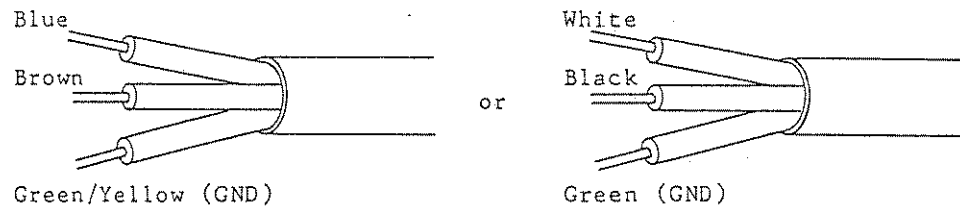

Fig. 1
- Power Cable: to 3-core cable (See Fig. 1 for the colors.)